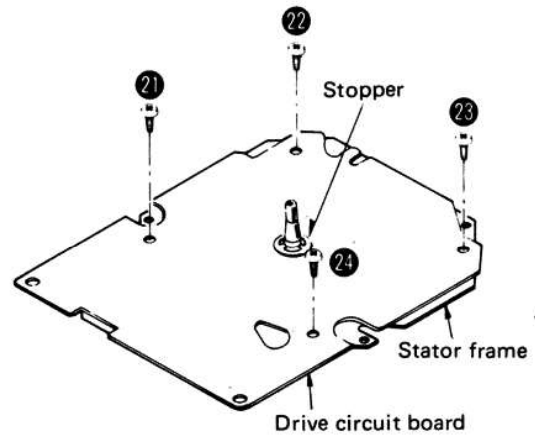

Fig. 9
3. Cut off the stopper by nippers and remove the 4 setscrews (Fig. 9 : ㉑ ~ ㉔) to separate the stator frame and drive circuit board.